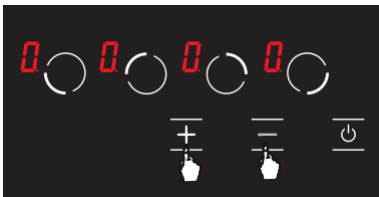

Figure 12
2. Using the **+** and **-** keys, bring the temperature on all hobs to **0** (see Fig. 12). The Hob will be turned off by itself after 20 seconds.